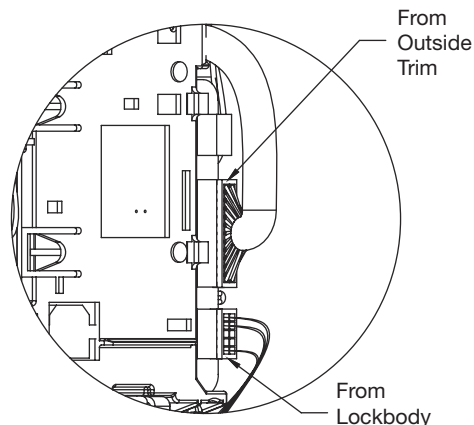

Fig. 13b Detail
- Insert battery pack and click into place, making sure polarity terminals on the battery pack are oriented upward (Fig. 13b).